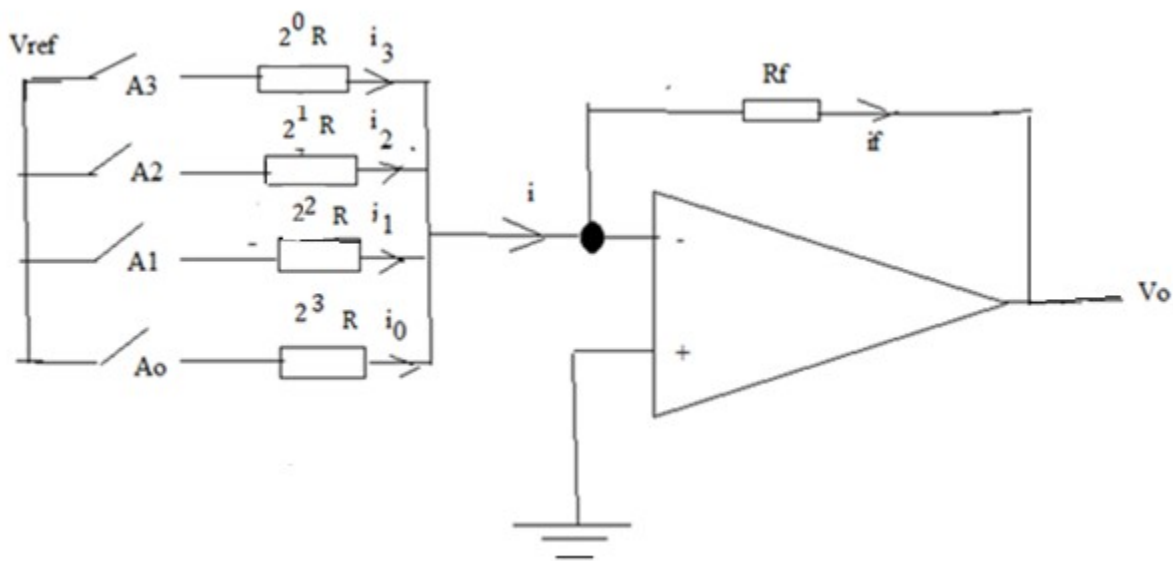

Figure Q2a
- a) For the circuit of Figure Q2a, derive the expression for the output voltage **(8 marks)**